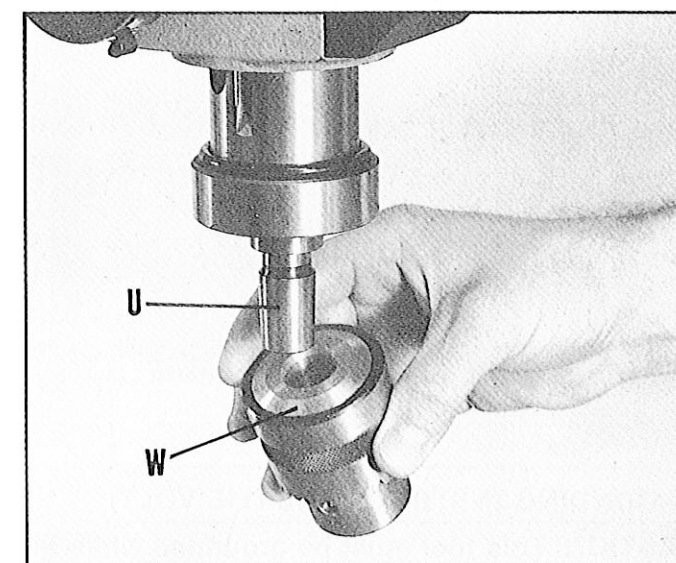

Fig 13
15. Make certain the bottom of spindle adapter (U) Fig. 13, and tapered hole in chuck (W) are cleaned as noted in Step 13, and push chuck (W) up onto the spindle adapter (U) as far as it will go.